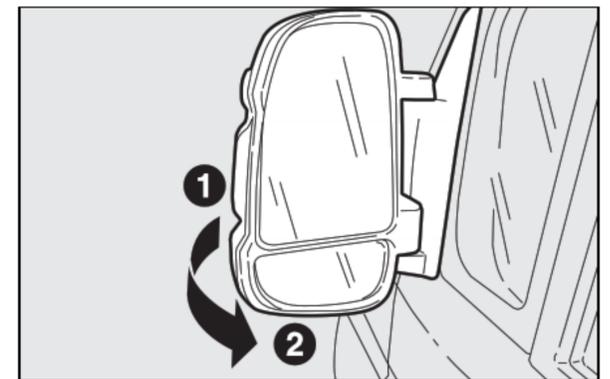

fig. 35
When required (for example when the mirror causes difficulty in narrow spaces) it is possible to fold the mirror moving it from position **1**-fig. 35 to position **2**.
**When driving the mirrors shall always be in position 1-fig. 35.**